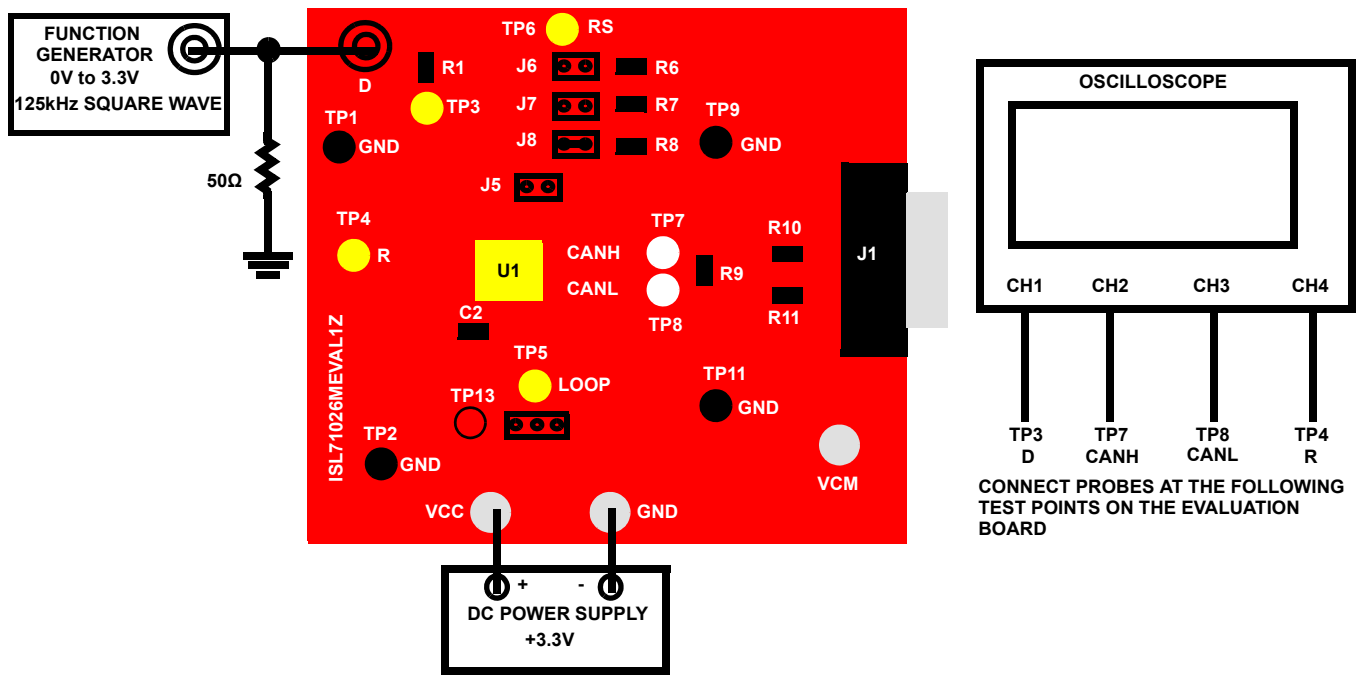

Figure 2.1 Basic Evaluation Test Setup Block Diagram (Measuring Propagation Delay, Skew, and Rise/Fall Time)
Refer to Figure 2.1 on page 6.
- (1) Attach the main evaluation board to the DC power supply to the banana jacks labeled VCC and GND as shown in Figure 2.1 on page 6. Positive terminal at VCC and negative terminal at GND. The supply should be capable of delivering 3.0V to 3.6V and 100mA of current. Set the supply voltage to 3.3V.
- (2) Configure the board for high speed mode by installing a jumper at J8. No jumpers should be installed at J5, J6, J7, and J9.
- (3) Connect the oscilloscope to the evaluation board as indicated in Figure 2.1 on page 6.
- (4) Connect the function/signal generator at the BNC connector labeled D on the evaluation board as shown in Figure 2.1 on page 6. Set the generator to output a 125kHz square wave, 0V to 3.3V amplitude, 50% duty cycle with a  $t_{\text{rise}} = t_{\text{fall}} \leq 6\text{ns}$ . Disable the generator output.
- (5) Verify that a 60Ω resistor is installed at location R9 on the evaluation board.